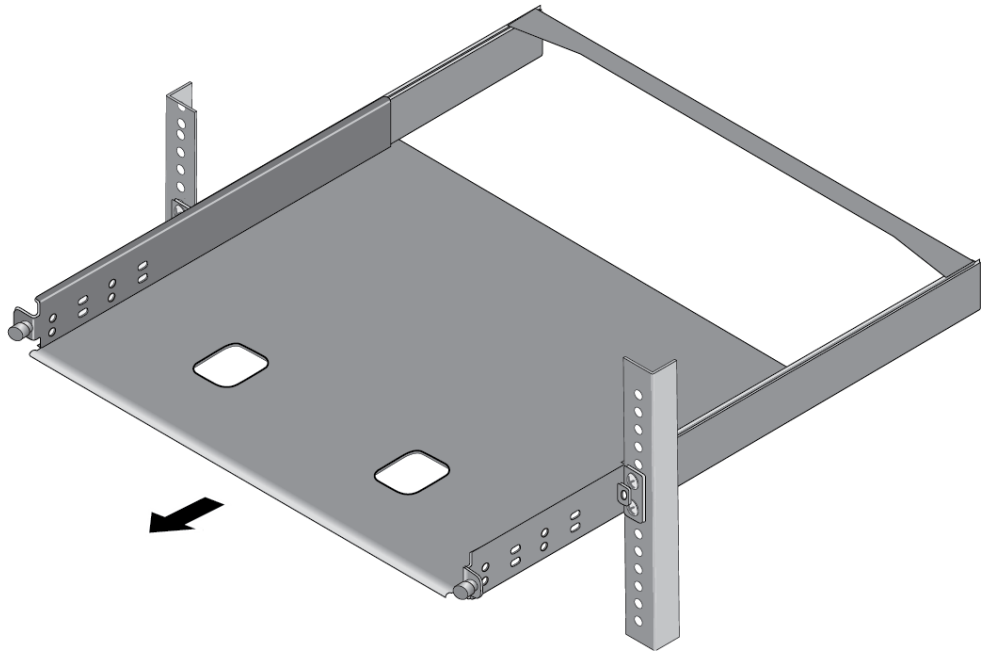

Figure 45. Sliding Out the Bracket of the RKMT-J15
3. Slide out the bracket tray. Refer to Figure 45.